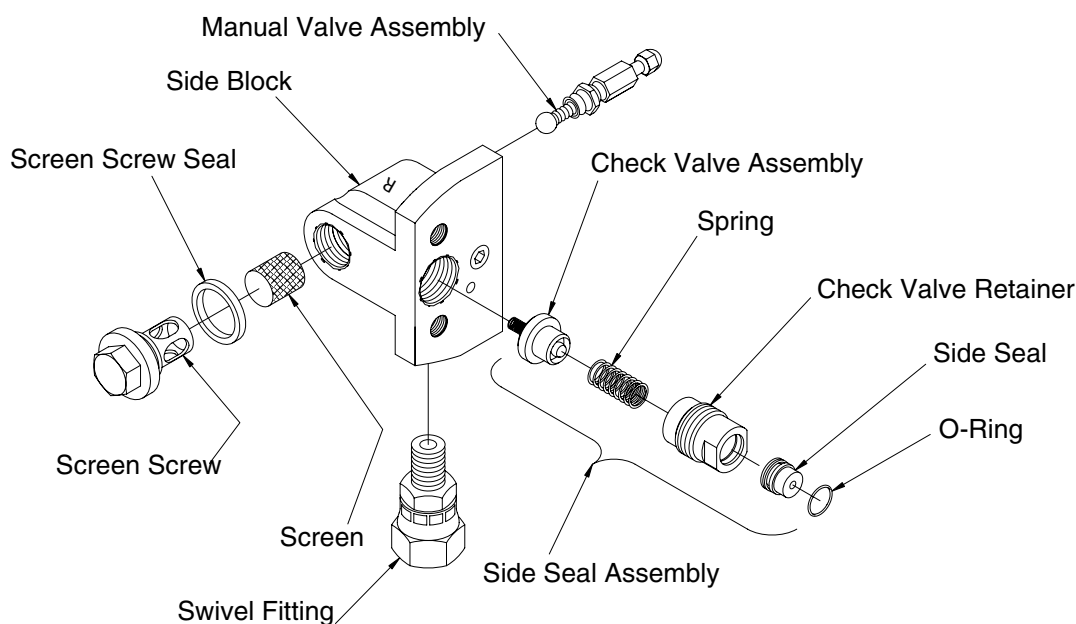

FIG. 7. Side Block Components
2. See FIG. 7. Remove A-side screen screw, seal, and screen. Inspect for damage. Thoroughly rinse and dry screen. Hold screen up to a bright light; mesh must be free of particles and material buildup. Replace as necessary. Repeat for R-side.